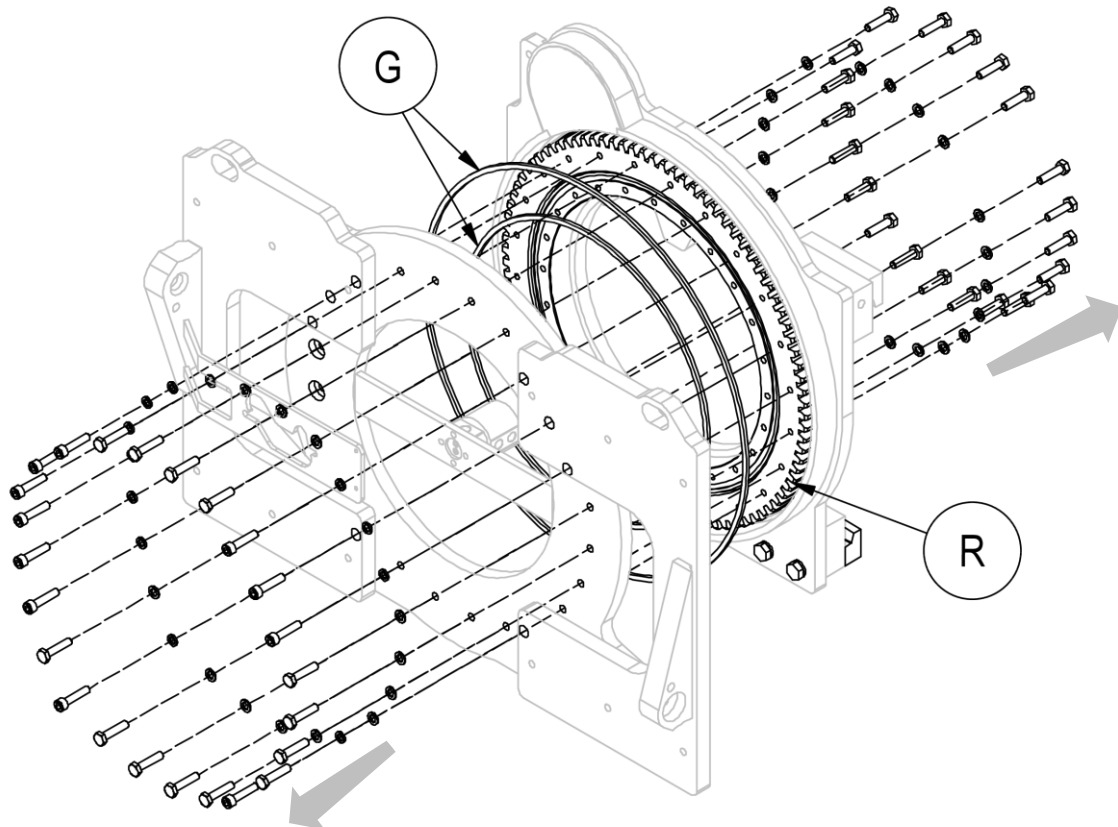

Figure 33
5. Remove the front part of the rotating body, ensuring that all parts are supported to carry out the procedure in safety (see *Figure 33*).
6. To remove the slewing ring **R**, the bolts on the rear of the equipment must also be removed (see *Figure 33*).